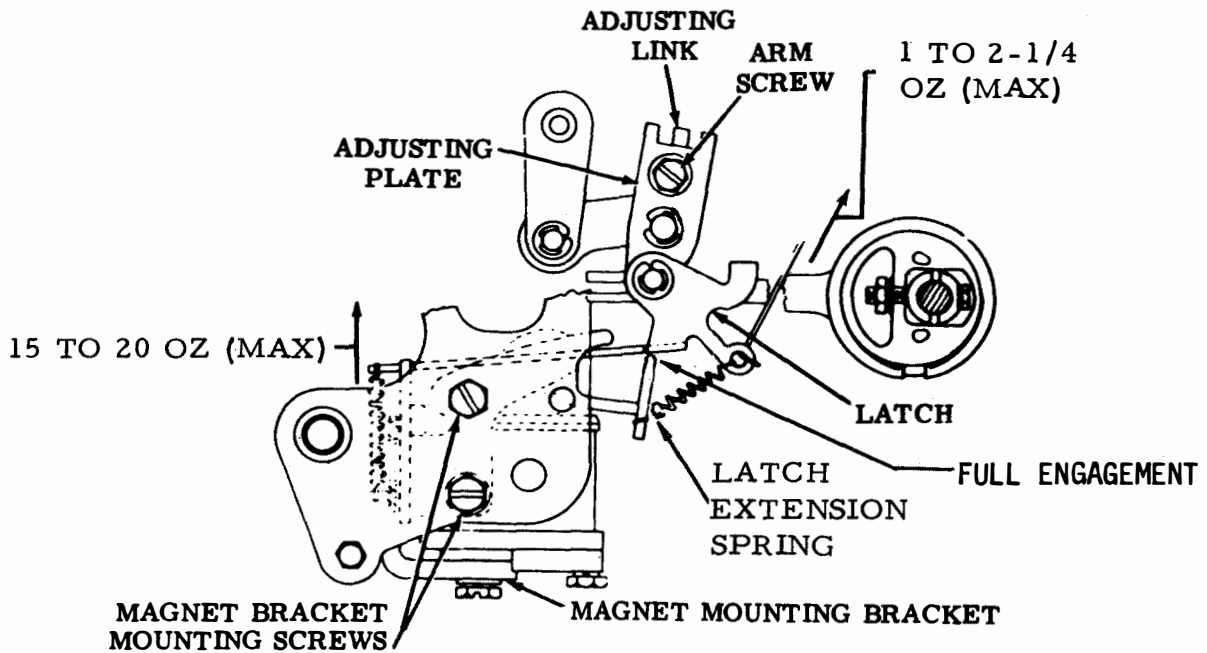

Figure 6-471. Armature Spring, Latch Extension spring, and Magnet Position, Perforator
(a) Refer to Figure 6-471.
- (a) Refer to Figure 6-471.
- (1) No reference Figure.
- (2) Unit operating under power and put tape in punch unit.
- (3) Place feed wheel shaft oil hole in its uppermost position and operate mechanism once.
- (4) Backspace ratchet wheel shall be backed one space and feed wheel ratchet in a fully detented position.
2. For fully perforated tape, loosen arm screw and move adjusting plate, see Figure 6-471.